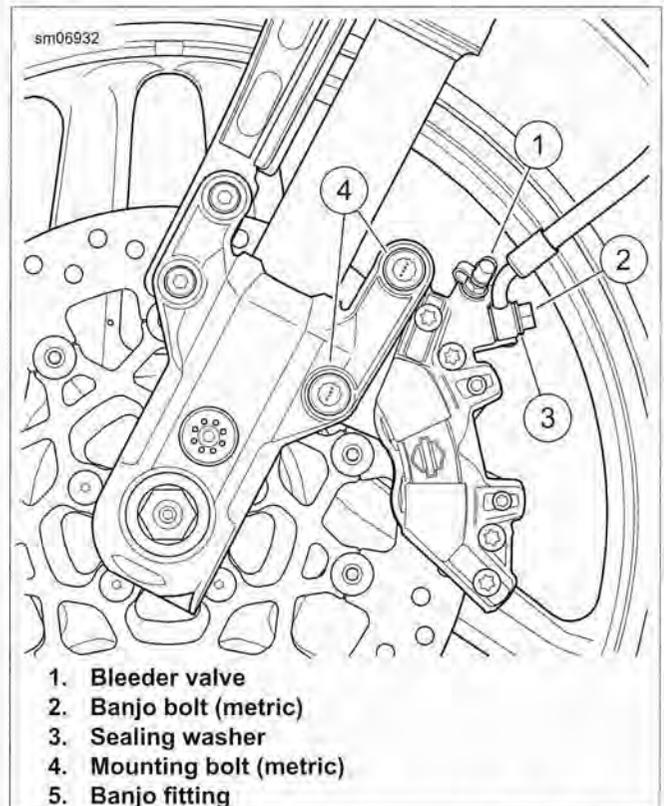

Figure 2-71. Front Caliper Assembly: XR 1200X
2. See Figure 2-71. Place brake caliper over brake disc with bleeder valve (1) facing upwards. Install mounting bolts (4) and tighten to 28-38 ft-lbs (38.0-51.6 Nm).